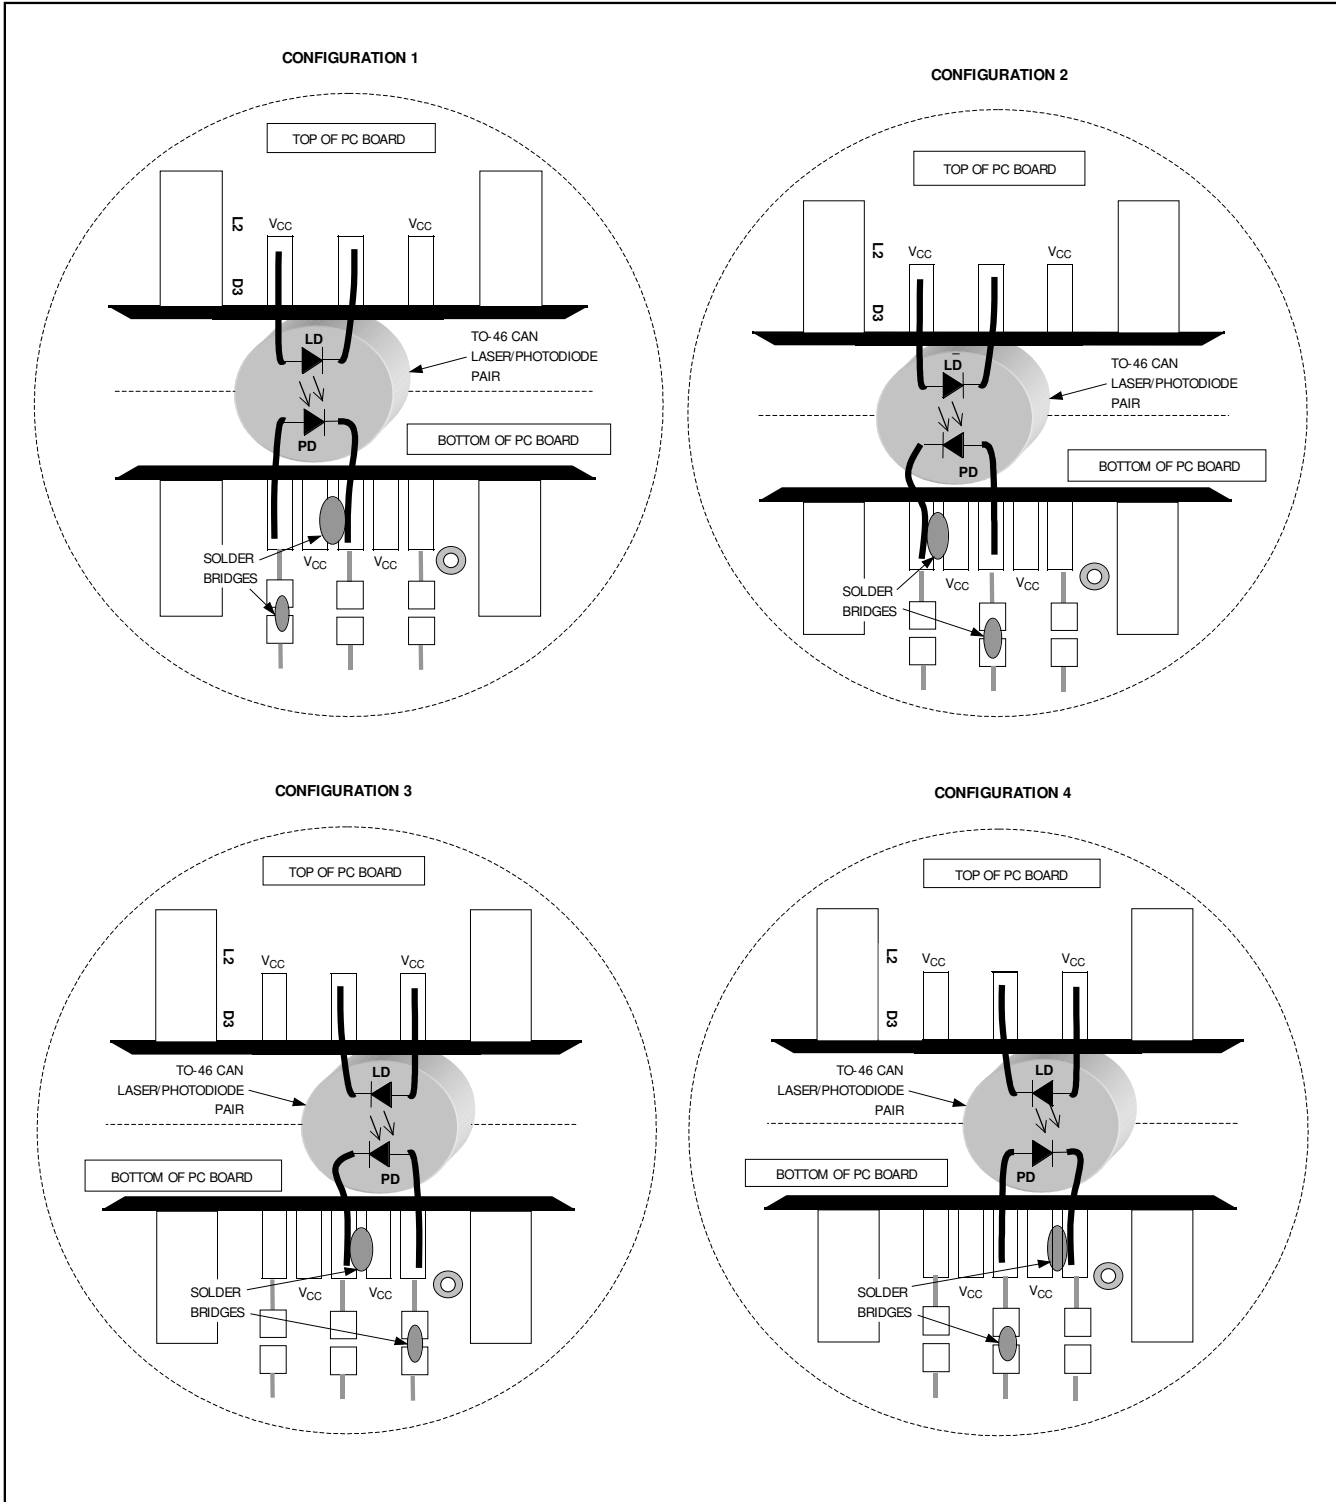

Figure 1. Attachment of Laser Diode/Monitor Diode to MAX3669 EV Kit
- 2) Connect a TO-style header laser and monitor diode (Figure 1) as follows:
* TO PHOTOLASER (SEE FIGURE 1 FOR PHOTOLASER CONNECTION).